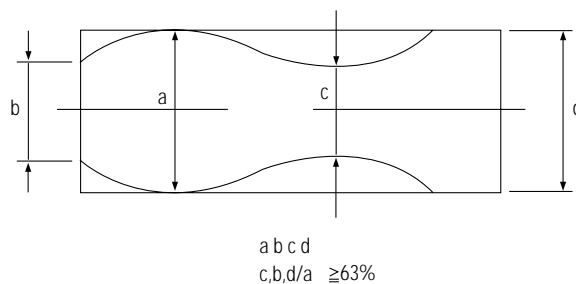

Fig. 5-9 Envelope Waveform Adjustment
- 3) Make sure the video envelope waveform (at its minimum) meets the specification shown in Fig. 5-9.